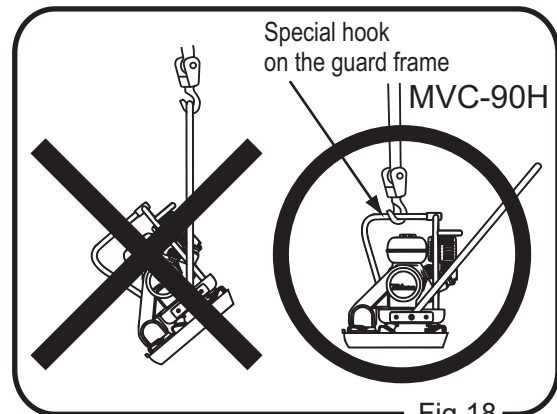

Fig.18
- 3 When lifting, always use a special hook on the guard frame (MVC-90H).(Fig. 18)